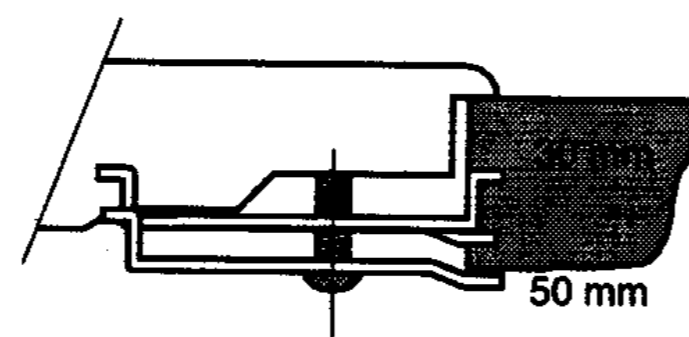

fig. 7
- Secure the fixing brackets (see fig. 7).